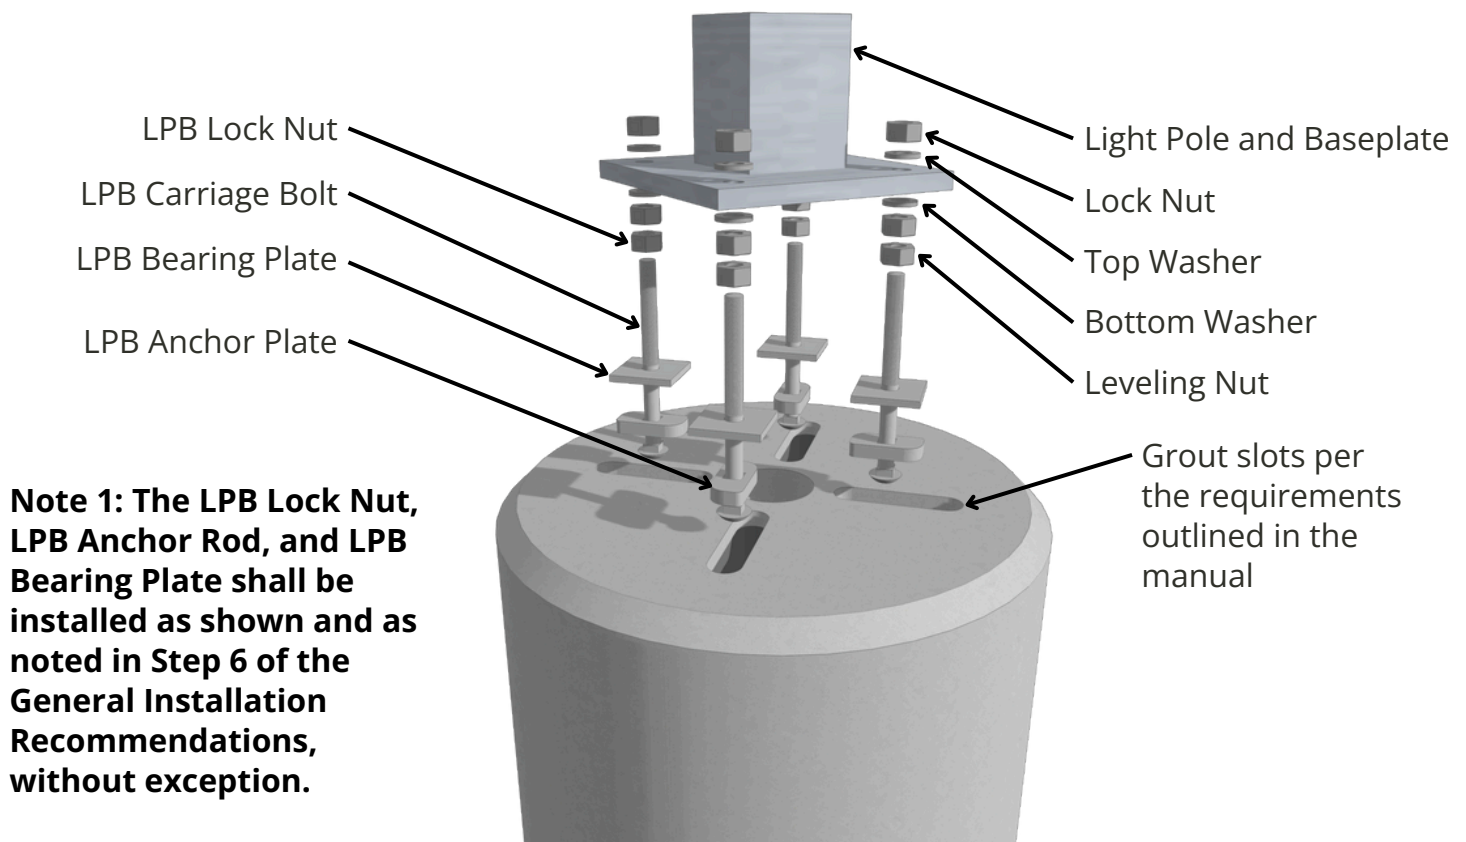

Figure 1: Recommended LPB Bolting Diagram
- Figure 1 below, is a recommended bolting diagram that should be followed in the absence of guidance provided by the light pole manufacturer. Any guidance or requirements provided by the light pole manufacturer shall supersede the guidance in Figure 1, except as stated in Note 1 below.
- The light pole and base plate should be installed using the Recommended Bolting Diagram, previously shown in Figure 1 on page 5, in the absence of guidance provided by the light pole manufacturer. Any guidance or requirements regarding bolting from the light pole manufacturer shall supersede those shown in Figure 1, except as stated in Note 1 of Figure 1.